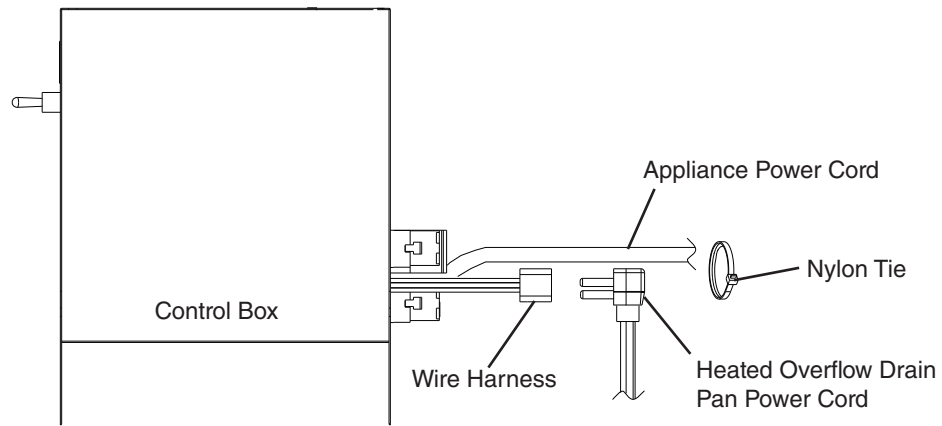

Fig. 11
19) Plug the heated overflow drain pan power cord into the wire harness connector. Secure the heated overflow drain pan power cord to the appliance main power cord with a nylon tie. See Fig. 11.